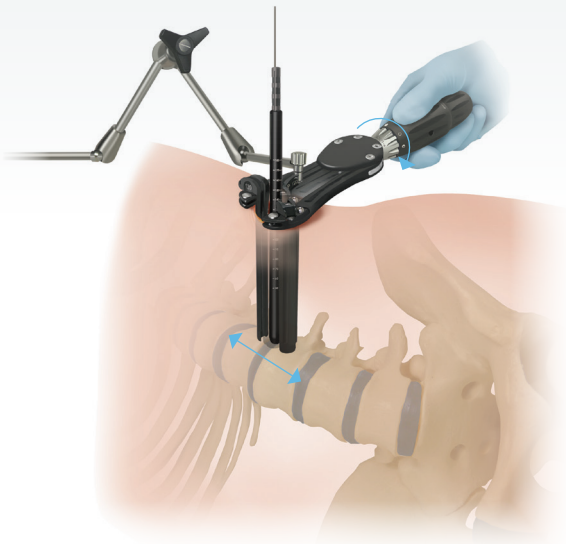

Figure 25
- Open the cranial/caudal blades by rotating the cranial/caudal handle counterclockwise approximately 180° (**Figure 25**).